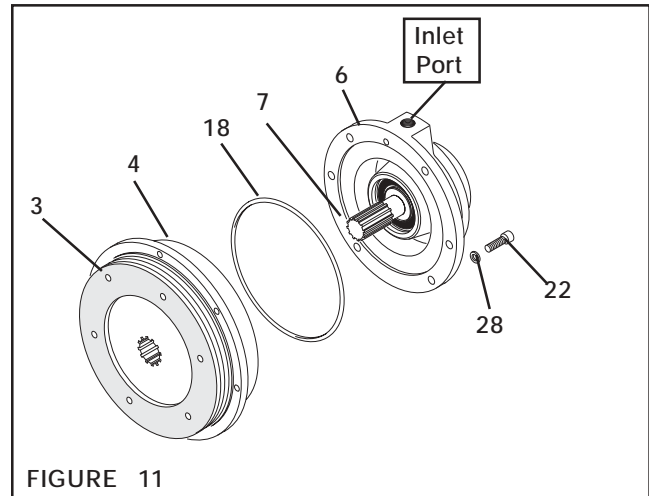

FIGURE 11
1. Lubricate the new O-ring Seal (Item 18) with Lubriplate® O-ring lubricant (See Figure 11).
2. Press the new O-ring Seal into the seal groove in the Brake Housing (Item 4) (See Figure 11).
3. Slide the Cylinder Housing (Item 6), Bearing Housing (Item 29), and Shaft (Item 7) onto the Brake Housing (Item 4) and Clutch Disc (Item 3) (See Figure 11).
4. Apply a drop of Loctite® 242 to the threads of the ten Socket Head Cap Screws (Item 22) (See Figure 11).